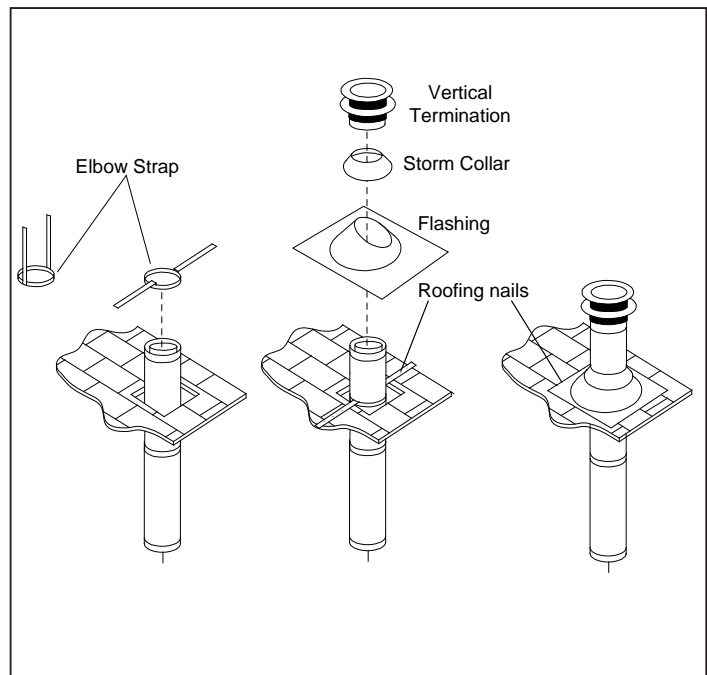

Figure 67: Vertical Vent Termination
- Step 4.** Measure roof pitch. Select the proper flashing and storm collar and determine the height above the roof (see Figure 67). A non-corrosive pipe material must be used for all exterior pipe lengths. Seal nail heads with silicone.